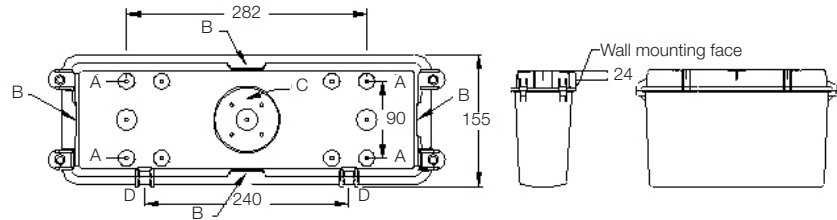

Figure 1: Glass filled nylon base, drill to suit for mounting
3. Take the nylon base and drill holes to suit (refer figure 1). Base mounting screws are not supplied with the unit. Use appropriate screws as required depending on your installation, ie: wall or ceiling. Installer must ensure proper sealing of any penetration to the base to maintain the IP rating of the unit.
- Without using any wall mount bracket; drill holes in the base to suit (refer figure 1, hole position "D") for wall mount installation without using any bracket. Use appropriate screws as required. Installer must ensure proper sealing of any penetration to the base to maintain the IP rating of the unit.